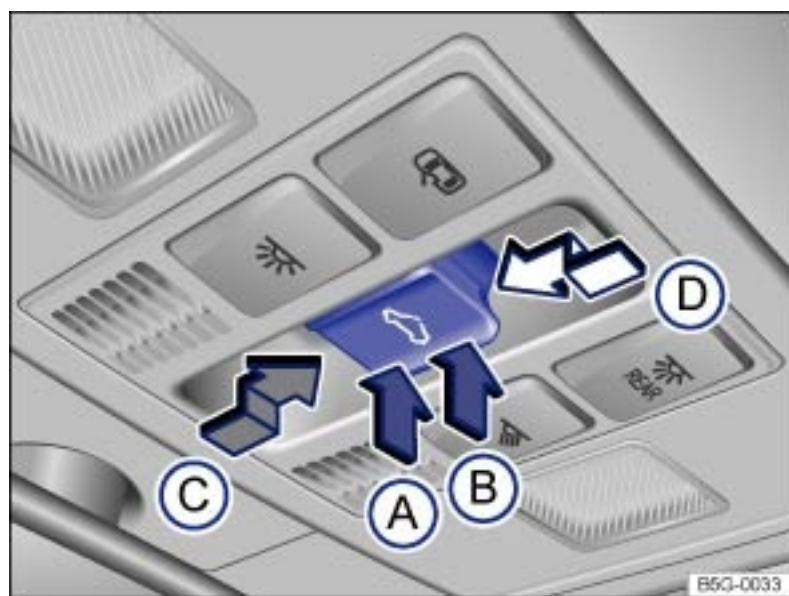

Fig. 36 In the headliner: Power sunroof switch.
The  switch → Fig. 36 has 2 detents for each switch position (Ⓐ, Ⓑ, Ⓒ, and Ⓓ), which are described in the following table.
Function	Action → Fig. 36
- Press the  button → Fig. 36 within about 5 seconds after the sunroof has stopped and hold it in the direction of the arrow ⑤ at the second detent until the power sunroof closes completely.